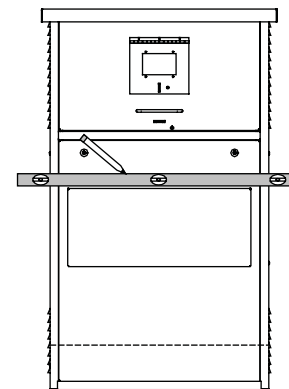

Fig. 2
1. Using a 4-ft level and a pencil, mark the front of the enclosure where you want to place the top side brackets and bar. See recommended placement specifications available at [www.alpha.com](http://www.alpha.com) (P/N 745-847-C1-001). See Fig. 2.